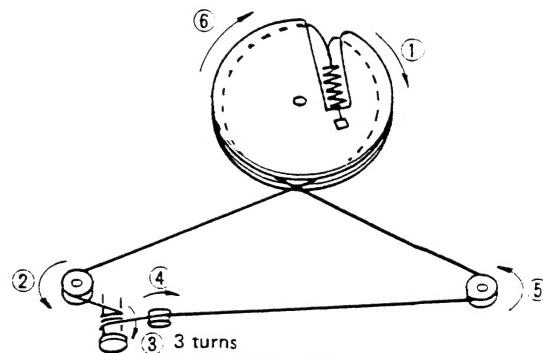

Fig. 12
2. Follow the steps ① to ⑥ for correct stringing as shown in Fig. 12.